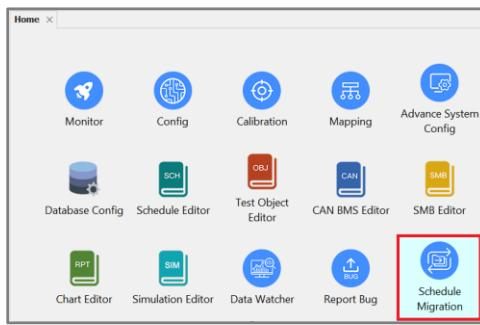

Figure 19-1 Open Schedule Migration
- 1) Double-click on the Schedule Migration icon on the Console home page to open Schedule Migration (Figure 19-1).